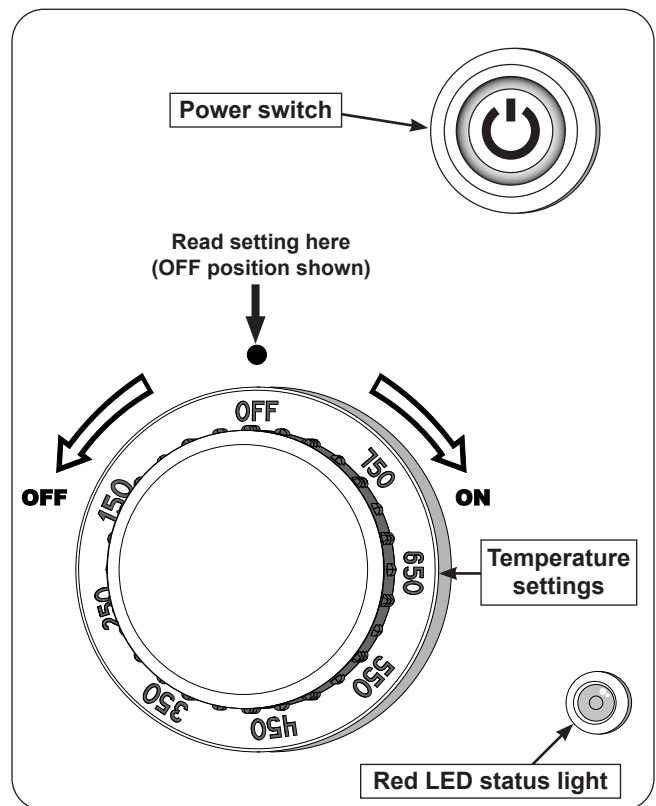

Fig. 35-1 Ignition components
3. Turn on the gas at its source. Then press the power switch (see Fig. 35-1).
For your convenience and safety, when the ignition system is lighting the unit **AND** when the burners are lit, the red LED status light will illuminate (see Fig. 35-1).